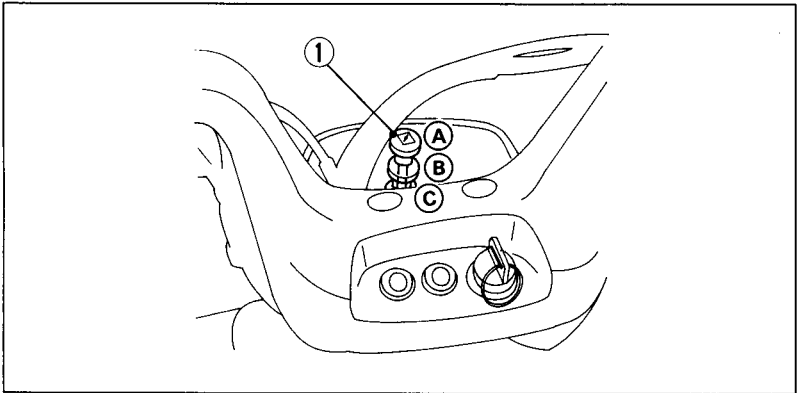

Fig. 2-6
The choke knob (Fig. 2-6) is located above the ignition switch. The choke has three positions: full choke (A), half choke (B), and off (C).